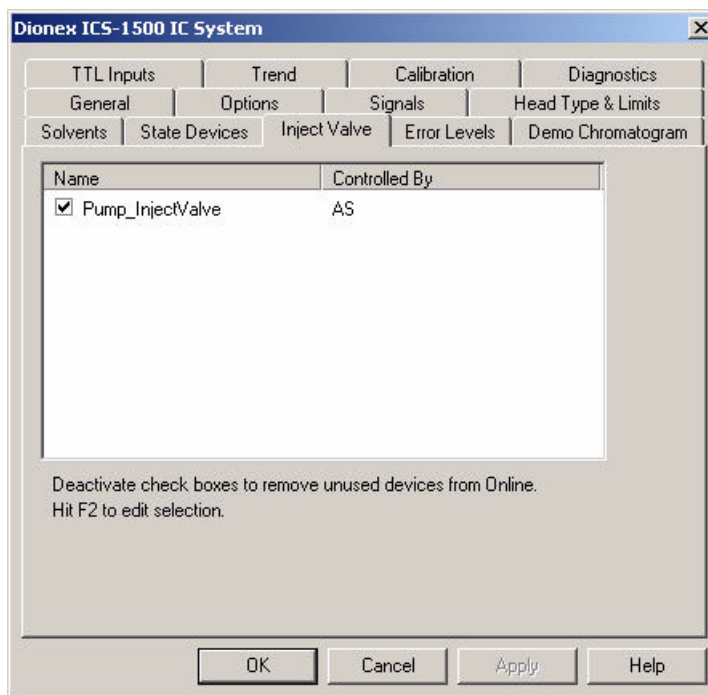

Figure 42. ICS-1500 Inject Valve Server Configuration Properties
- d. Verify that the **Pump_InjectValve** check box is selected and that **AS** is listed in the **Controlled By** column (see Figure 42).